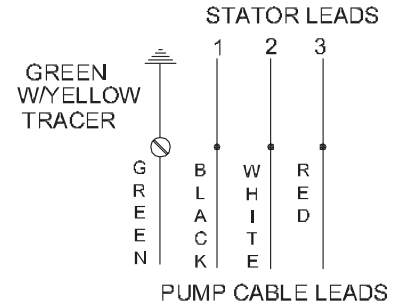

FIGURE 11
To assemble discharge case (22) to stator/frame assembly, set the assembly in the upright position. Make sure all stator leads are properly identified (See Figure 11 or 12 for Dual Phase/ Voltage). Each lead should be color coded or numbered for identification. Apply a grease to o-rings (19) and (20) and place on discharge case (22). Set the discharge case (22) onto the stator/frame assembly with the terminal cavity directly over the stator leads and insert the leads through the stator dam (47) into cavity opening, being careful not to lose the lead identification numbers or damage the o-rings. Be sure that load spring (8) is sitting properly in bearing bore of discharge case. Line up the holes and insert capscrews (31) with flatwashers (49), lockwashers (55) and quad rings (56) into holes and torque to 75 In Lbs.
Slide cable grip nut (2b), cable grip (2c), bushing (2d) and cable gland (2e) with o-rings (25) onto cable (2a), and expose approximately 3" of wire at the end of the cable. Attach ground screw (33) and washer (39) with ground wire (Green) to the inside of terminal cavity in discharge case (22). Make wire connections in accordance to Figures 11 or 12 using connectors (29) and then tape each connector individually with electrical tape. Fold and insert the connectors and wires into the terminal box cavity. Insert capscrews (28) with washers (30) and tighten to 5 Ft. Lbs.